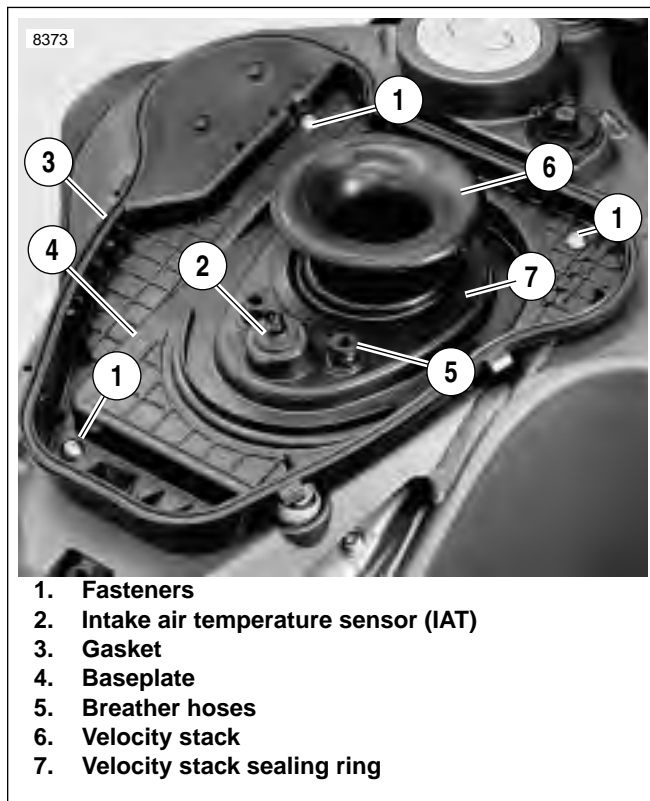

Figure 4-117. baseplate (all models)
5. See Figure 4-117. Remove air cleaner baseplatebaseplate.
- a. Remove four fasteners (1) and raise baseplate (4).
- b. Disconnect longer breather hose (5) from baseplate (pull out from bottom).
- e. Lift baseplate off of frame, carefully disengaging baseplate from rubber sealing ring (7) on velocity stack (6).
1. See Figure 4-117. Hold baseplate above mounting position.